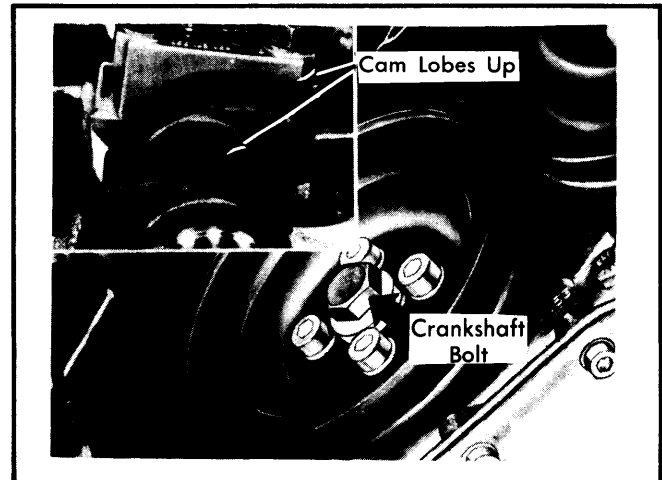

Fig. 5 Adjusting Valve Clearance
1) Remove accelerator linkage, upper drive belt cover and cylinder head cover. Turn crankshaft pulley bolt in a clockwise direction until cam lobes of cylinder to be adjusted point upward. See Fig. 5.